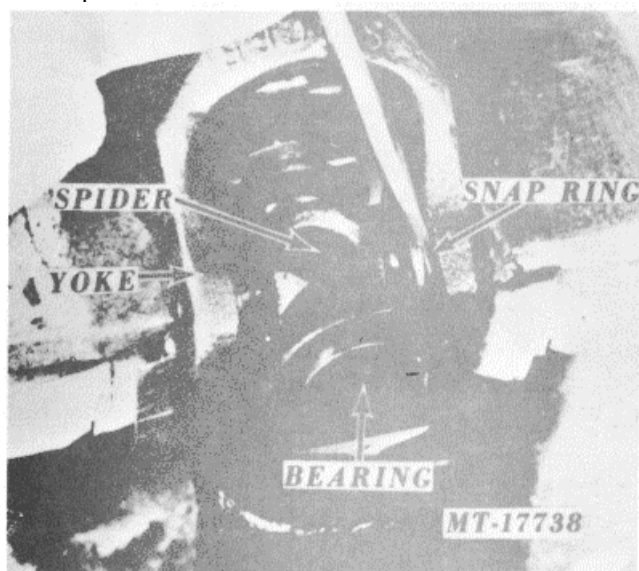

Fig. 8 Snap Ring Removal
1. Place universal joint in vise as shown in Fig. 8. Remove snap ring fitting in grooves of the spider bearings which locate them on the inside of the yokes. To remove snap rings; place a screwdriver against an end of the snap ring and push.